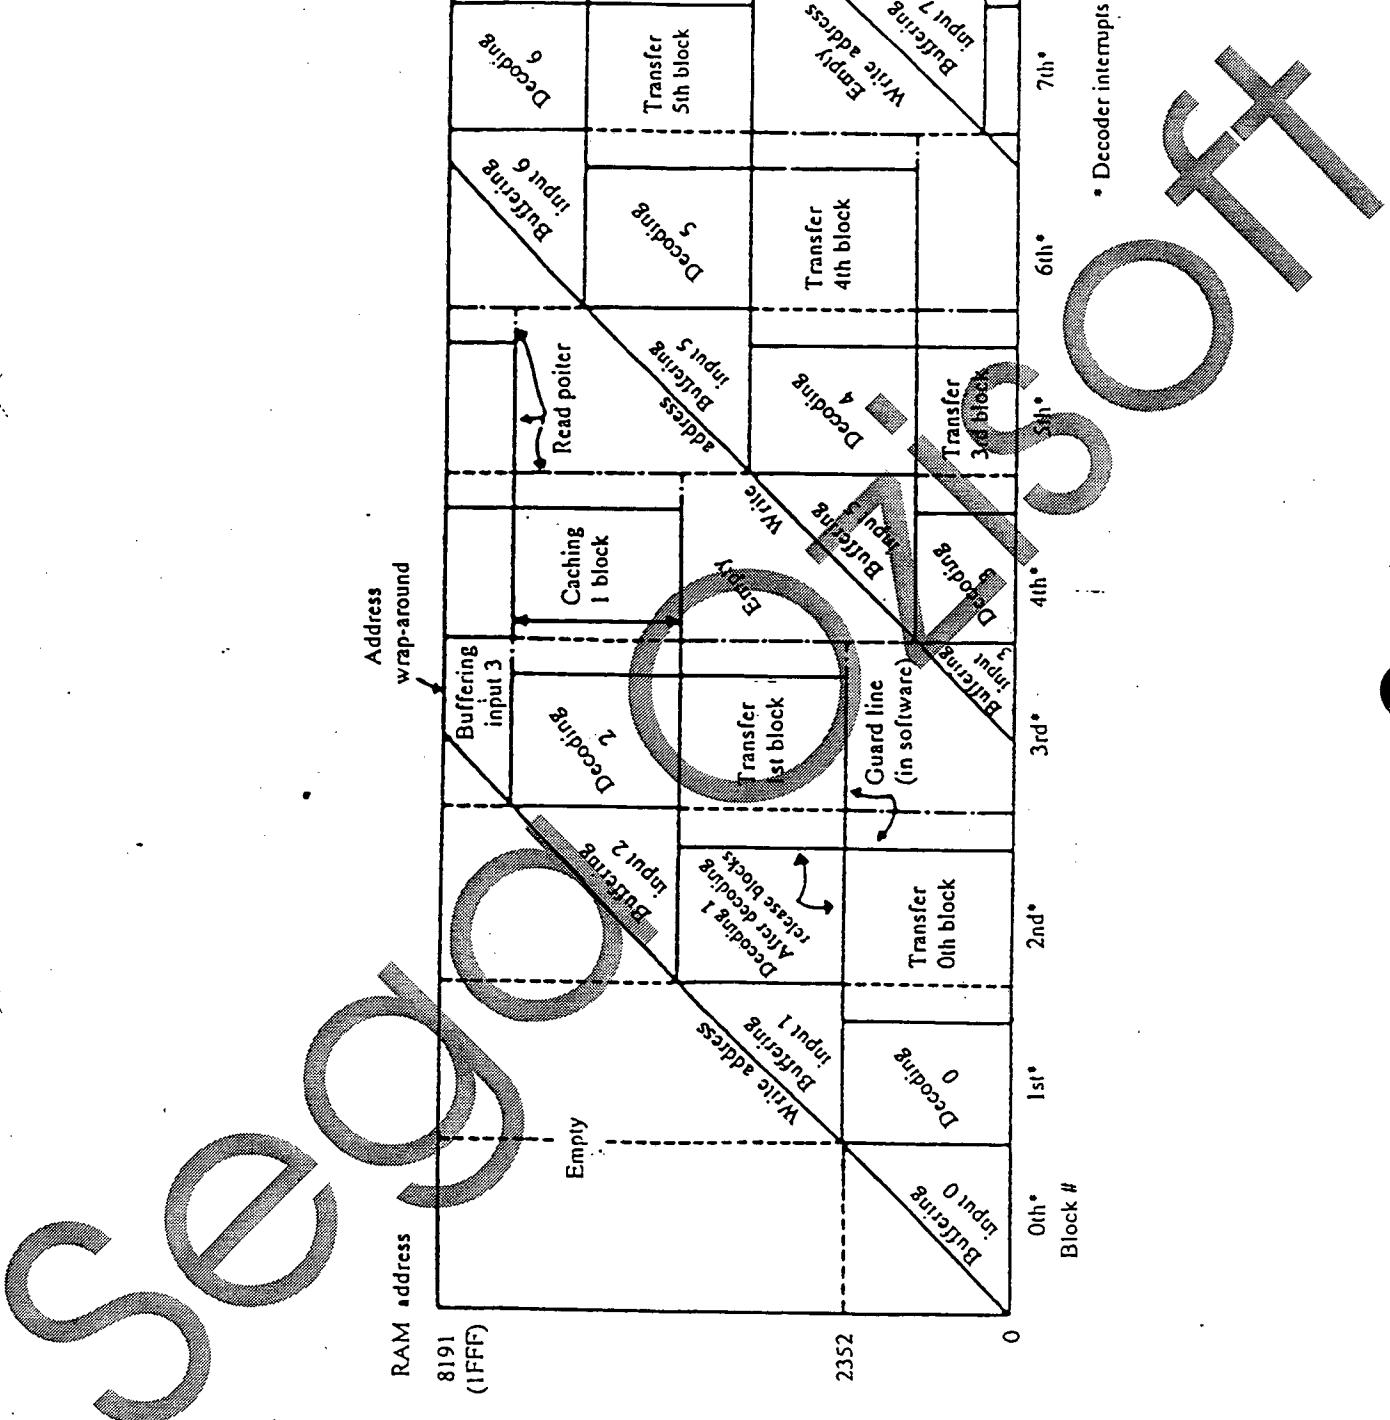
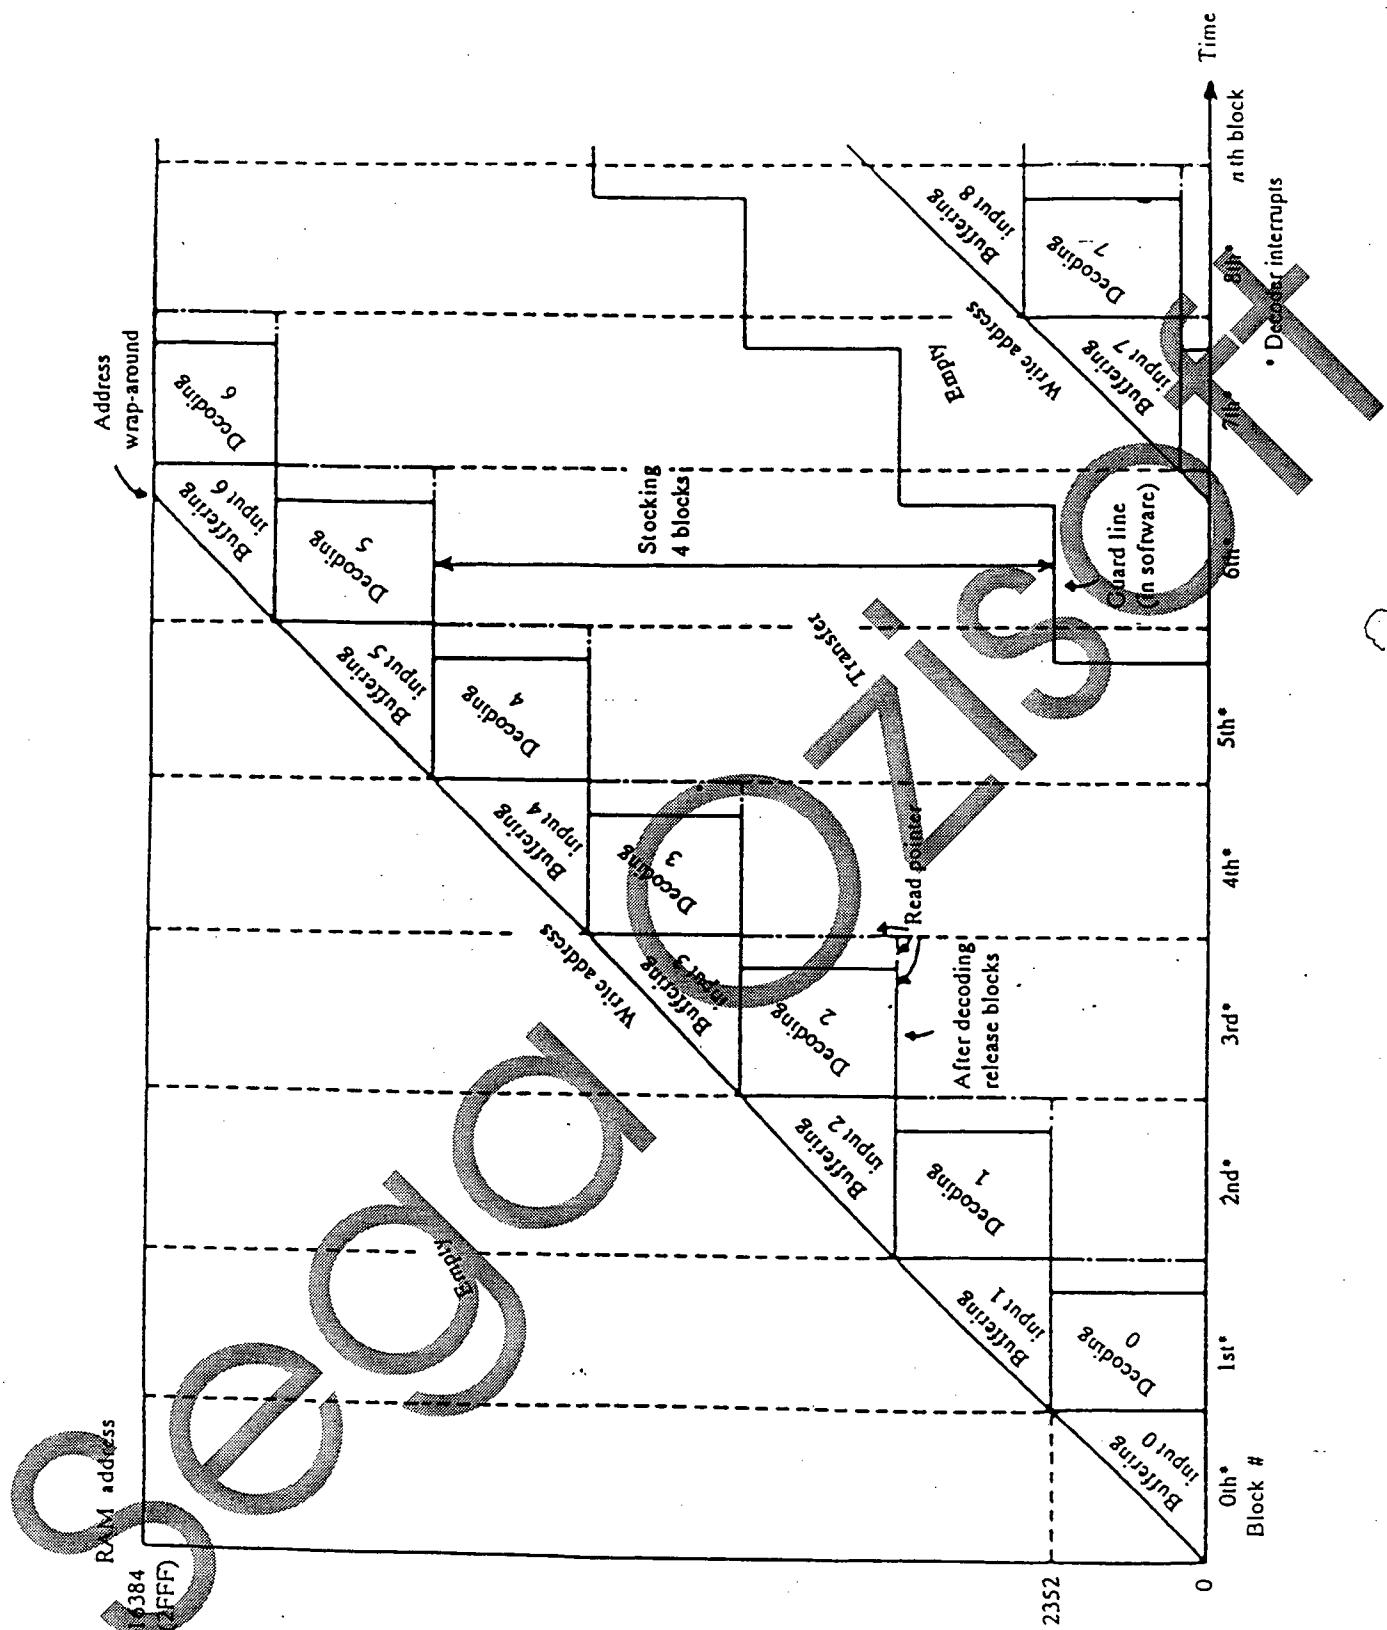

Figure 24. Single-Block Caching (Decoder Interrupt Control)
Figure 25. An Example of Block Caching in Real-Time Correction Mode 1 (Block-by-Block Transfer)
When a single block caching (8 Kbyte) buffer is used, one block is allocated to hold the incoming data stream, one block is used to hold the sector being decoded (error detection and correction), and one block is allocated to hold the sector being transferred to the host. See figure 24 *Single Block Caching (Decoder-Interrupt Control)*. The processing of these three blocks takes place simultaneously and transparently. Note, however, that the host must read out one block of data during each one-block processing period in order to prevent buffer overflow.
*Figure 25 An Example of Block Caching in Real-Time Correction Mode 1* shows the flowchart of the error correction process. In real-time correction mode, one block of storage is allocated to the incoming data stream, one block for decoding, and four blocks to data transfer. The four-block data transfer area is occupied by untransmitted blocks, the block currently being transferred, and already transferred blocks. This configuration, known as four-block caching, allows the LC8950 to transfer four blocks of data to the host at any time during a four-block period, reducing overhead.
Even when a one-block overflow condition is detected at the time of a decoder interrupt, the block being transferred may not yet have been overwritten at the time the decoder interrupt was generated, and the block of data already transmitted may be correct. Figure 24 *Single Block Caching* and figure 25 *An Example of Block Caching in Real-Time Correction Mode 1* show at which point during an overflow condition the block currently being transferred is actually overwritten.
Repeated correction can be implemented by modifying the Error Checking shown in figure 25.